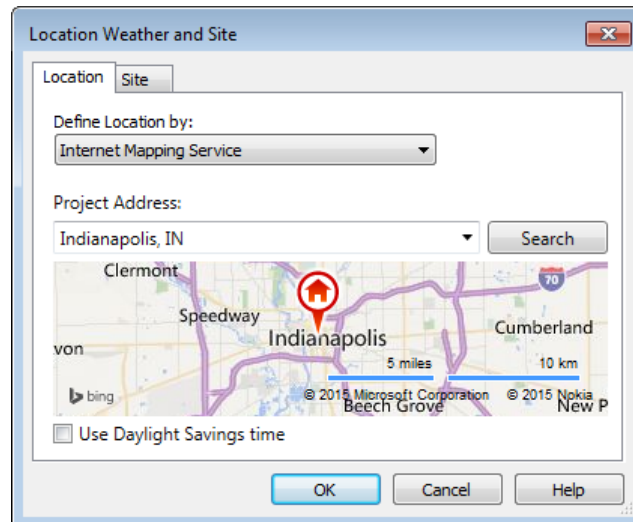

Figure 3-55 The desired location displayed in the **Location Weather and Site** dialog box
3. In the **Project Address** edit box, delete the default text, and enter **Indianapolis IN**, and then choose the **Search** button; the desired location is displayed on the map in the area below the edit box. Note that the search uses the bing map service to display the location, refer to Figure 3-55.